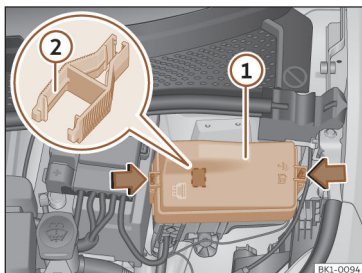

Fig. 193 In the front compartment: fuse box cover.
- Press the locking tabs to unlock the fuse box cover >>> **Fig. 193** .
In the fuse box there may be plastic tweezers for removing fuses >>> **Fig. 193** .